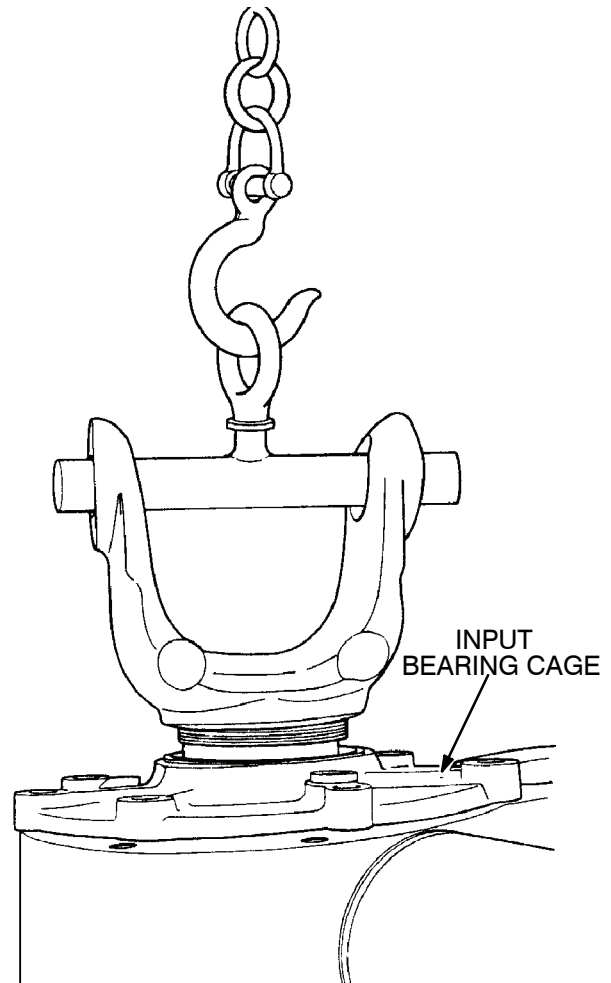

Figure 13. Input Shaft and Bearing Cage Removal.
- (a) Lift the input shaft assembly until the bearing cage is separated from the carrier. If necessary, tap on the bearing cage with a brass or plastic mallet to separate the cage from the carrier. Figure 13.